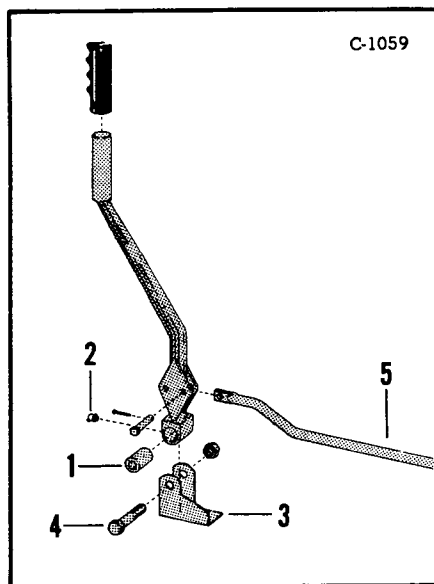

Fig. 164 Mounting Auxiliary Control
Insert the pivot bushing into the base of the lever (Figure 164, Item 1).
12. Insert the punched end of the control valve linkage rod (Figure 164, Item 5) into the control lever with the bend of the linkage rod toward the machine center. Fasten using a 1/4" x 1-1/8" flat head hinge pin and a 3/32" x 1-1/8" cotter pin.